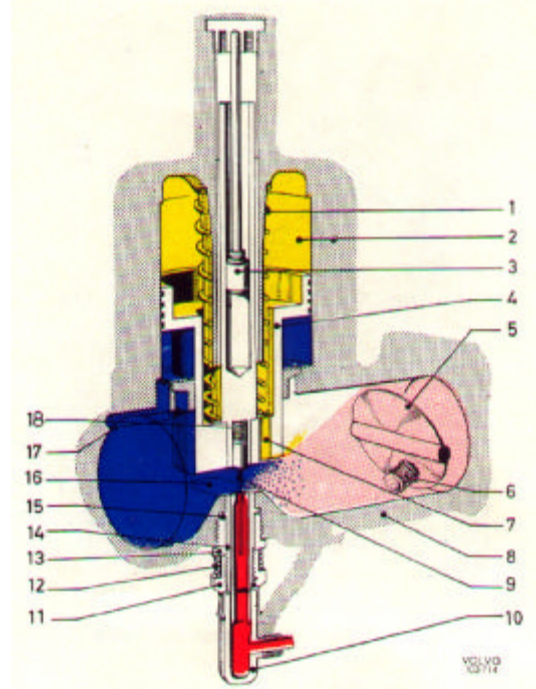

Fig 83 Carburettor function
The air flow passing through the carburettors when the engine is running increases in speed on passing through the constriction known as the bridge (16, Fig. 83).
When the air valve (4, Fig. 83) lifts, the damper plunger (3) is forced against its seat and oil is prevented from flowing past the lower side of the damper plunger from the upper side, and this retards the movement of the valve (4). A more powerful vacuum is temporarily obtained above the jet so that the fuel-air mixture becomes for the moment richer.
The fuel/air mixture is adjusted with the adjusting nut (11, Fig. 83) at the jet and adjustment is carried out at idling speed to cover the entire speed range.